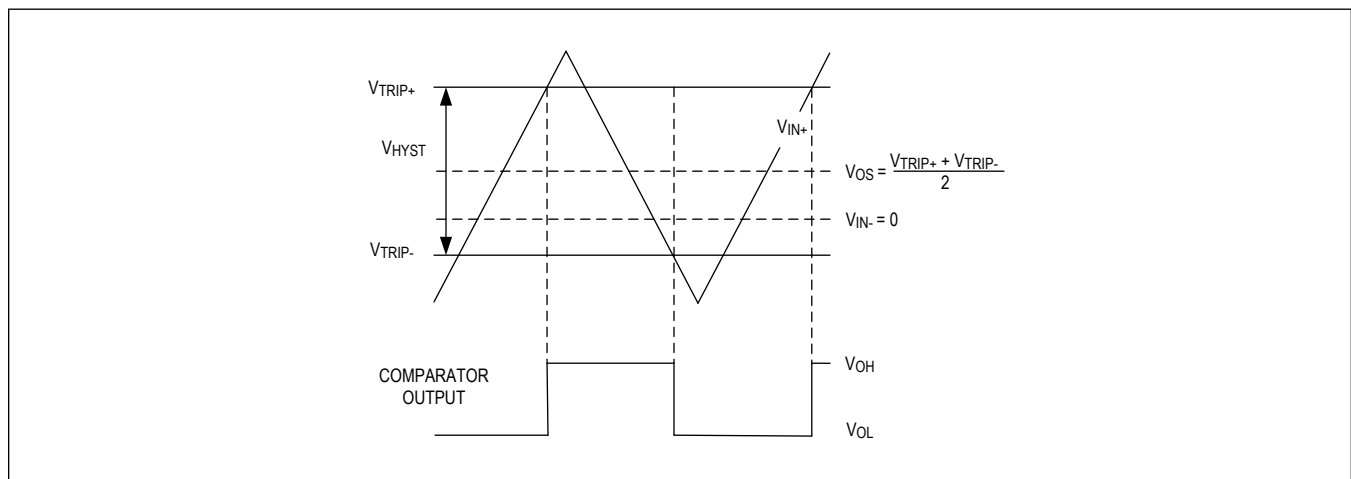

Figure 1. Input and Output Waveform, Noninverting Input Varied
**Note 3:** VOS is defined as the center of the input-referred hysteresis zone. See Figure 1.
**Note 4:** The input-referred trip points are the extremities of the differential input voltage required to make the comparator output change state. The difference between the upper and lower trip points is equal to the width of the input-referred hysteresis zone. See Figure 1.
The hysteresis in a comparator creates two trip points: one for the rising input voltage and one for the falling input voltage (Figure 1). The difference between the trip points is the hysteresis. The average of the trip points is the offset voltage. When the comparator's input voltages are equal, the hysteresis effectively causes one comparator input voltage to move quickly past the other, thus taking the input out of the region where oscillation occurs. Standard comparators require hysteresis to be added with external resistors. The device's fixed internal hysteresis eliminates these resistors. To increase hysteresis and noise margin even more, add positive feedback with two resistors as a voltage-divider from the output to the non-inverting input.
Figure 1 illustrates the case where IN- is fixed and IN+ is varied. If the inputs were reversed, the figure would look the same, except the output would be inverted.